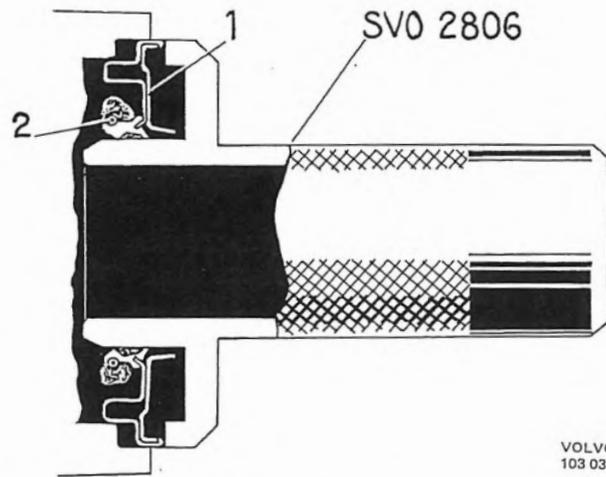

Fig. 4-133. Installing oil seal
3. Coat the seal lips of the new ring with grease. Lubricate also the spring coil so that it does not jump off during fitting. Then fit the oil seal with 2806, see Fig. 4-133.